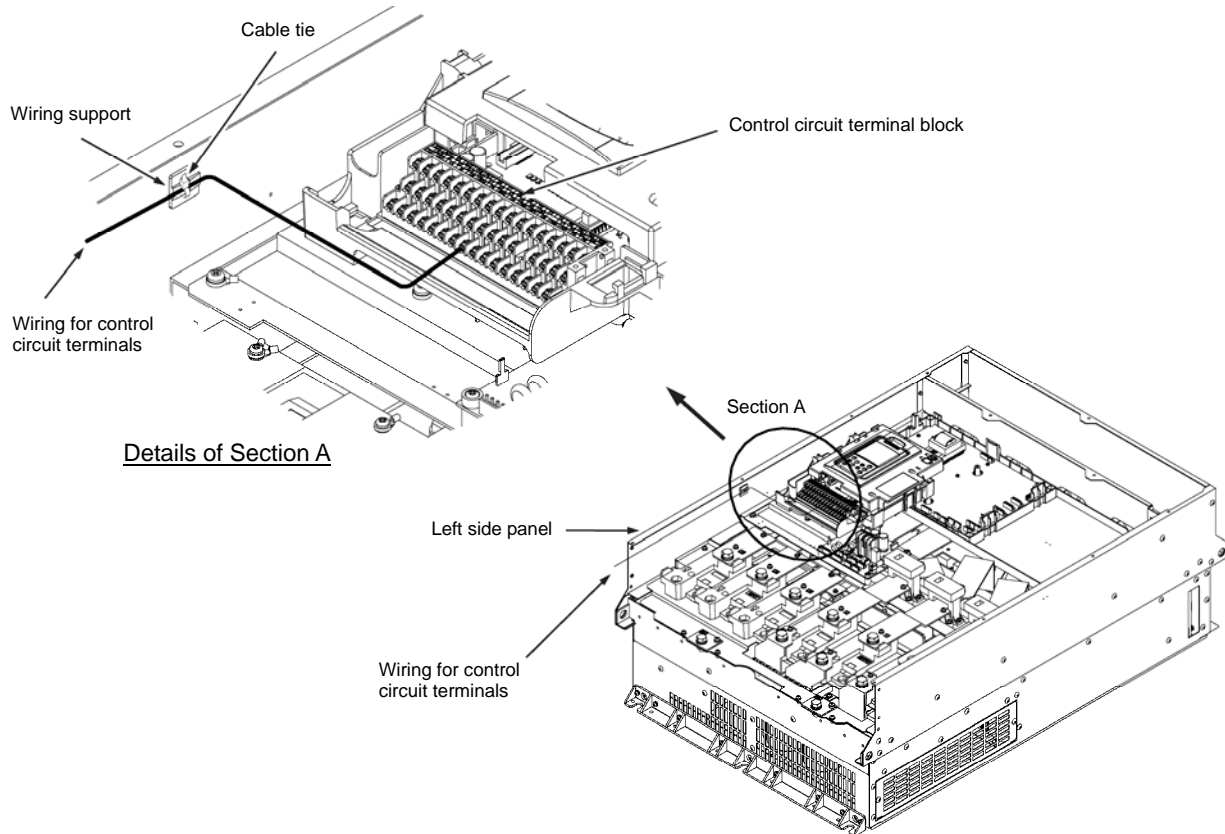

Figure 3.3-17 Wiring Route and Fixing Position for the Control Circuit Wires
- (1) As shown in Figure 3.3-17, route the control circuit wires along the left side panel to the outside of the inverter.
- (2) Secure those wires to the wiring support, using a cable tie (e.g., Insulok) with 3.8 mm or less in width and 1.5 mm or less in thickness.